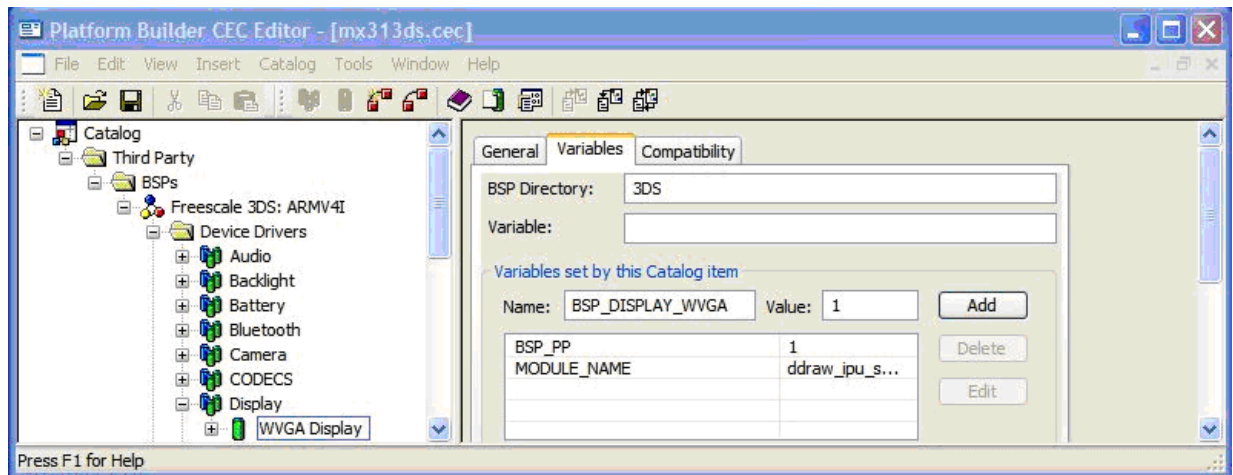

Figure 19. WINCE500 WVGA Display Catalog Item Variables
4. On the Variables tab, select **BSP_DISPLAY_EPSON_L4F00242T03** variable and click **Edit** button as shown in Figure 19.